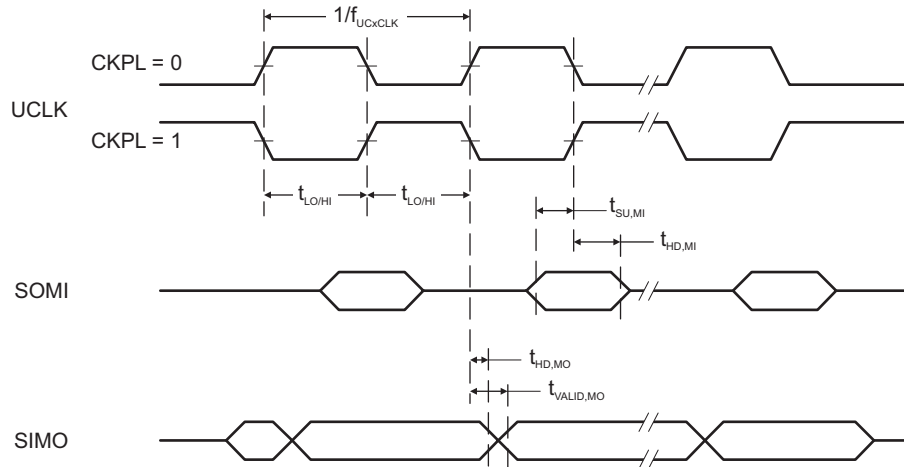
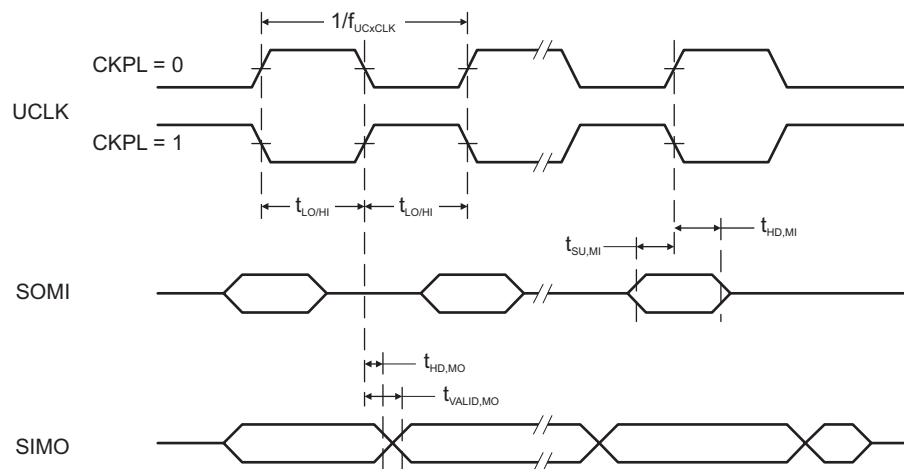

Figure 5-11. SPI Master Mode, CKPH = 0
Figure 5-12. SPI Master Mode, CKPH = 1
(see Figure 5-11 and)
- (2) Specifies the time to drive the next valid data to the SIMO output after the output changing UCLK clock edge. See the timing diagrams in Figure 5-11 and Figure 5-12.
- (3) Specifies how long data on the SIMO output is valid after the output changing UCLK clock edge. Negative values indicate that the data on the SIMO output can become invalid before the output changing clock edge observed on UCLK. See the timing diagrams in Figure 5-11 and Figure 5-12.